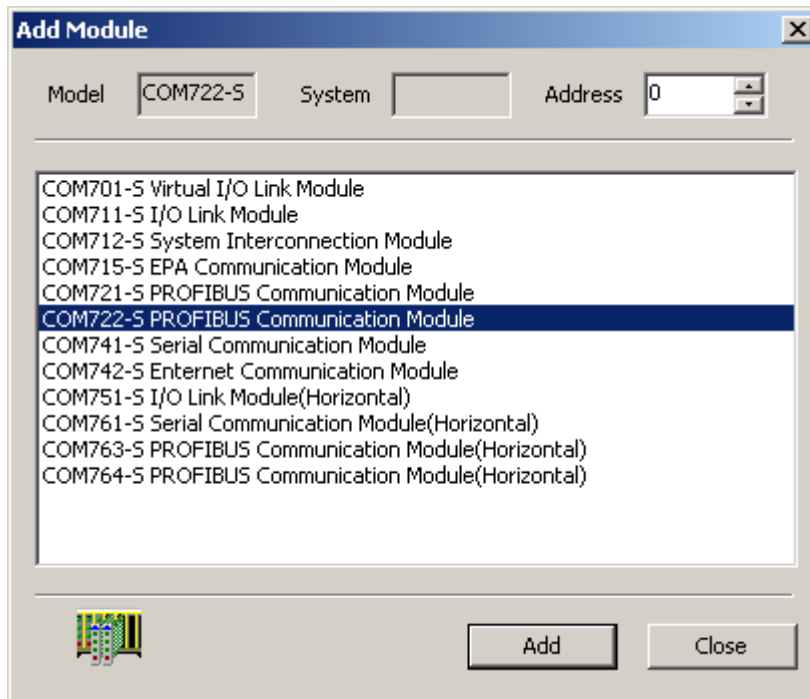

Figure 2-6 Add COM722-S
1. Select the main controller, right click and then select “Add” or “Operate (O)/Add (A)” in the menu or directly click the  in the tool bar, then a dialogue box shown in Figure 2-6 will pop up. Select “COM722-S PROFIBUS Communication Module” and corresponding address, then click “Add” to finish the adding process.